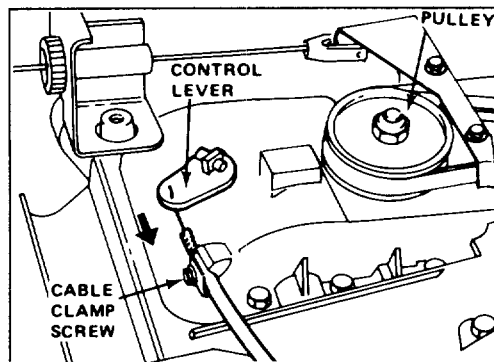

Figure 27
3. ADJUSTMENT (Fig. 27)—Loosen cable clamp screw until cable conduit slides. Push transmission control lever toward cable clamp screw and hold lever in place. Pull cable to remove slack and tighten clamp screw.
4. CHECK ADJUSTMENT—Assure ground speed control is in "N" and pull mower backward. Pulley (Fig. 27) should not rotate. If pulley does rotate, readjust for neutral: refer to step 3.